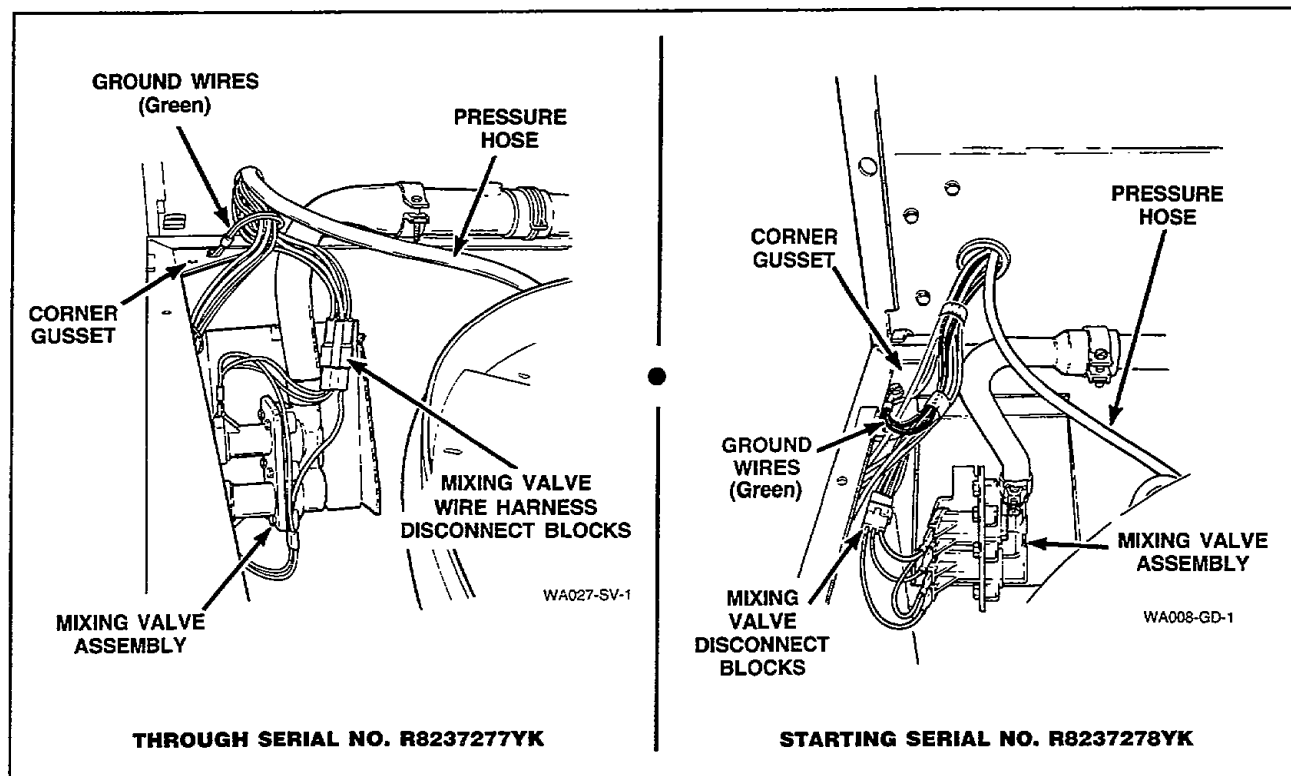

Figure 31
- n. Pull the top forward far enough to permit disconnecting the green ground wires from the top rear corner gusset of the washer cabinet., *Figure 31*, disconnect wires from mixing valve solenoids at rear of washer.